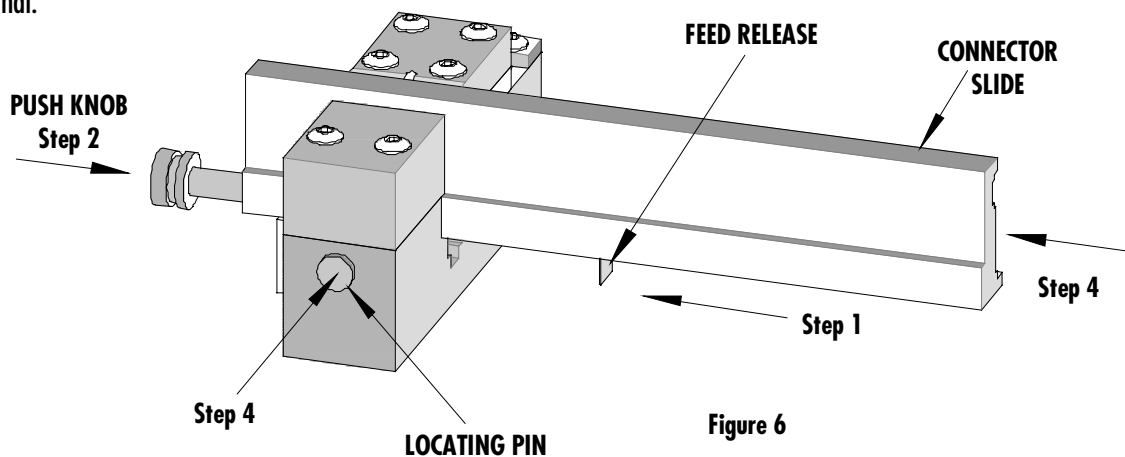

Figure 6
1. To unlock the connector slide, push the feed release all the way to the right. See Figure 6.
2. Now shift the connector slide all the way back to the left by using the push knob on the end of the slide. See Figure 6.
4. While pressing the locating pin on the front of the SL module and pushing the connector slide at the same time to the right until it stops. This should put the first terminal in front of the wire slot. See Figure 6.